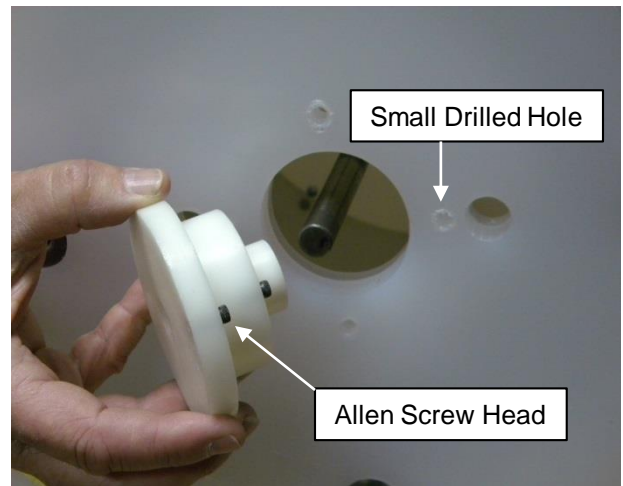

Figure 20
9.2 Install two Reel Payoff Cams into fiber reel bushings and insert Steel Shaft through center of Payoff Cams. **See Fig. 20.**